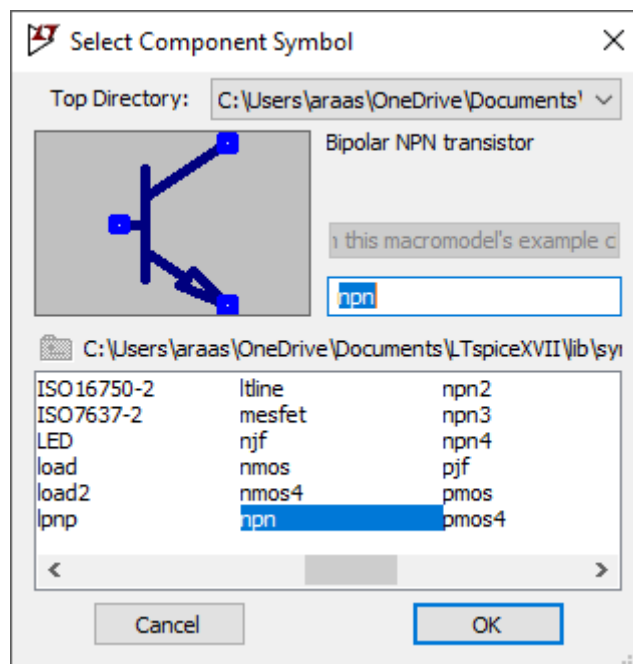

Fig. 1. npn transistor
1. Insert one BJT (npn) transistor, as in Fig. 1.